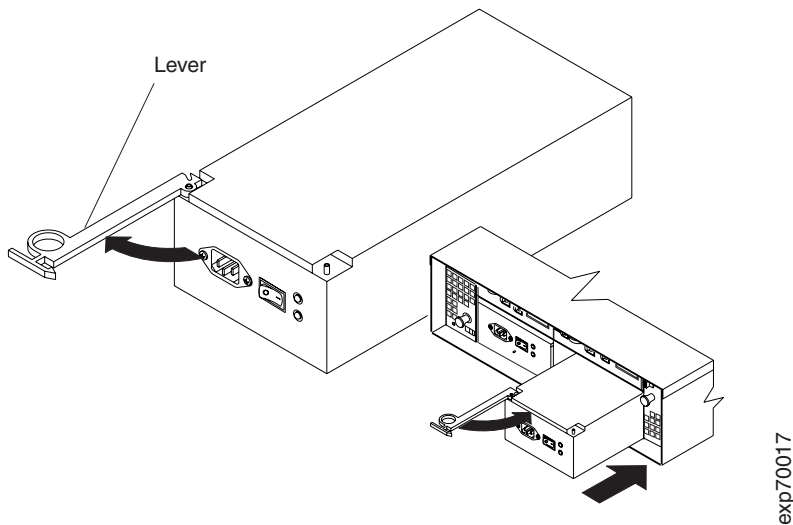

Figure 17. Replacing a power-supply CRU
1. Slide one power supply into the storage expansion enclosure. Be sure the levers are pulled straight out as you slide the power supply into the storage expansion enclosure, as shown in Figure 17 on page 28.